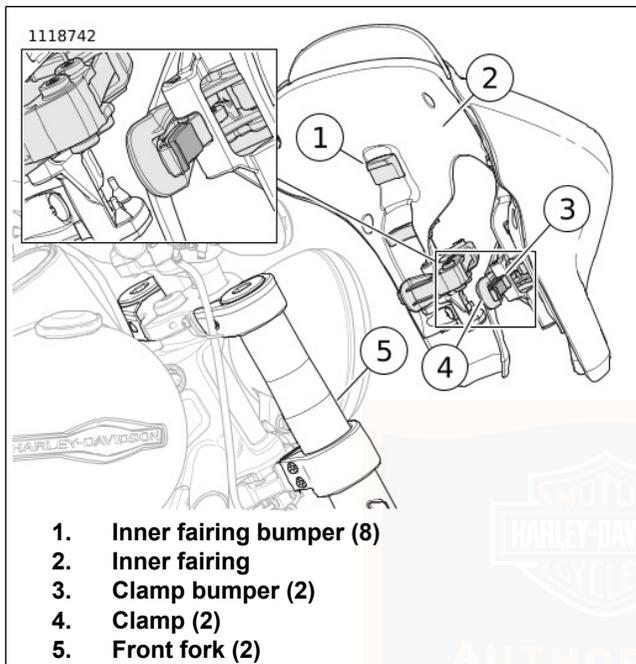

Figure 54. Fairing Clamps
1. See Figure 54. Inspect fairing.
- a. Verify inner fairing bumpers (1) and clamp bumpers (3) are in place, clean, and in good condition.
- b. Open and close clamps (4) to verify they are in working order.